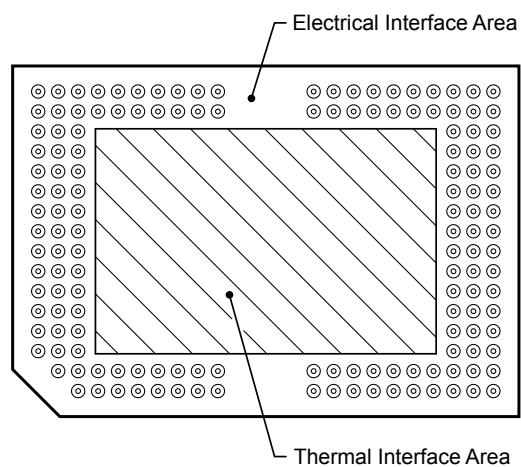

Figure 5-7. System Mounting Interface Loads
(1) Uniformly distributed within the area shown in Figure 5-7